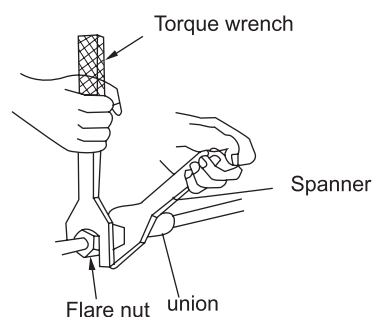

Figure 7
2. Screw in the flare nut by hand and then tighten the nut with spanner and torque wrench. (refer to figure 7) Note: Too large torque will damage the nut.